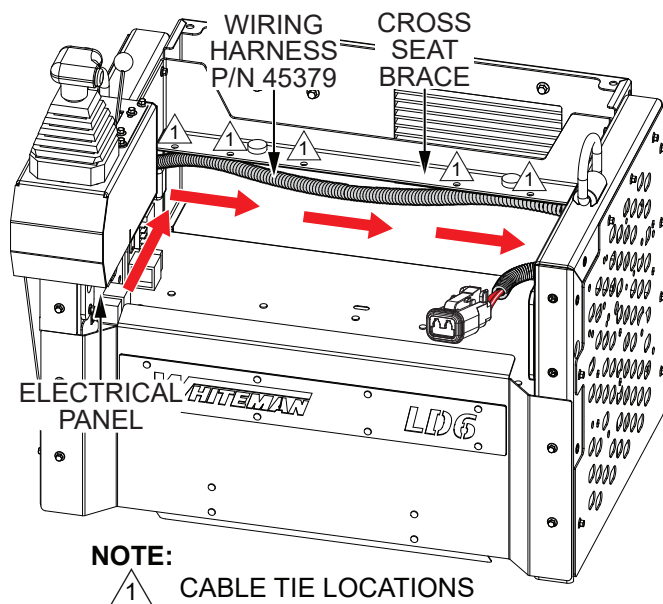

Figure 13. Install Wiring Harness
- From the electrical panel, run the spray kit wiring harness (P/N 45379) straight back to the cross seat brace, along the cross seat brace to the other side of the machine, then forward to the left-side control panel. Use cable ties to secure the harness to the cross seat brace. See Figure 13.